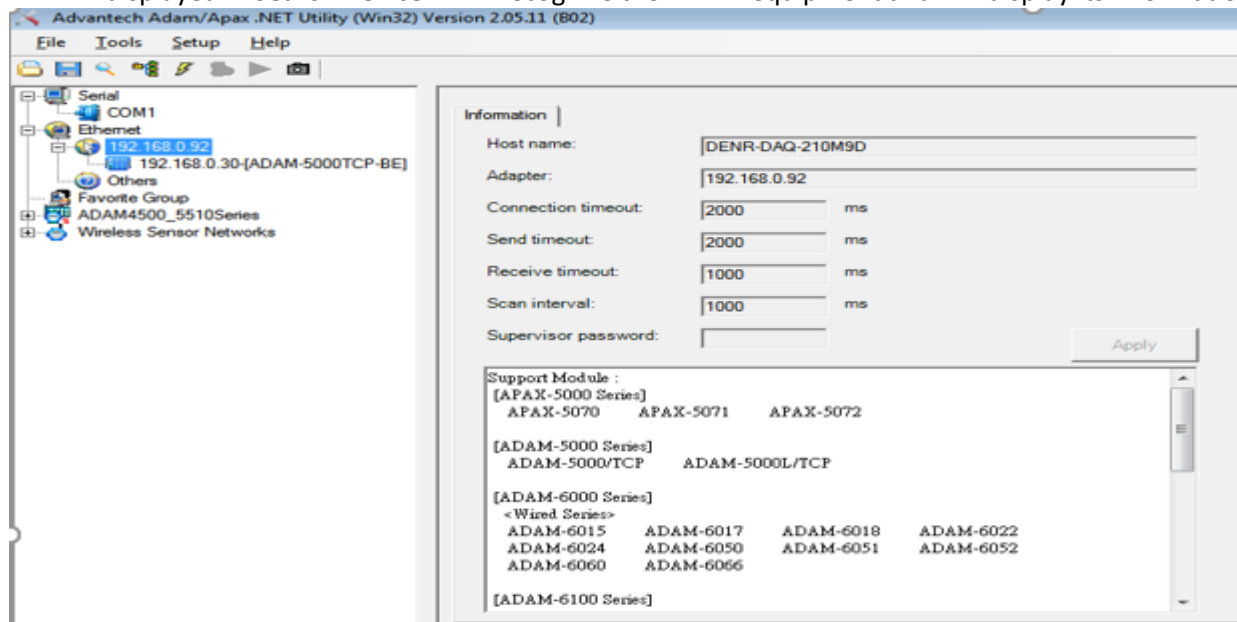

Figure 4 - ADAM/Apax.Net Utility <Search Device> Example
11. Click < **Tools** > on the menu bar, and then click < **Search Device** >. The box below, in Figure 4, will be displayed. < **Search Device** > will recognize the ADAM equipment and will display its information.